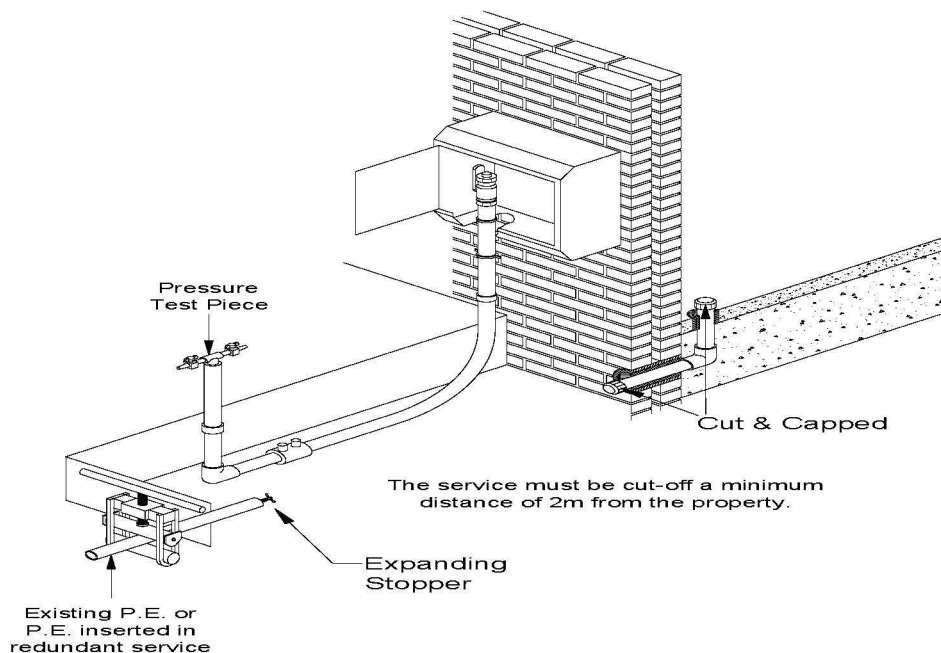

Figure A33 – Typical PE Service Alteration
3. The service alteration (Figure A33) shall be undertaken in accordance with Chapters B, D and E.